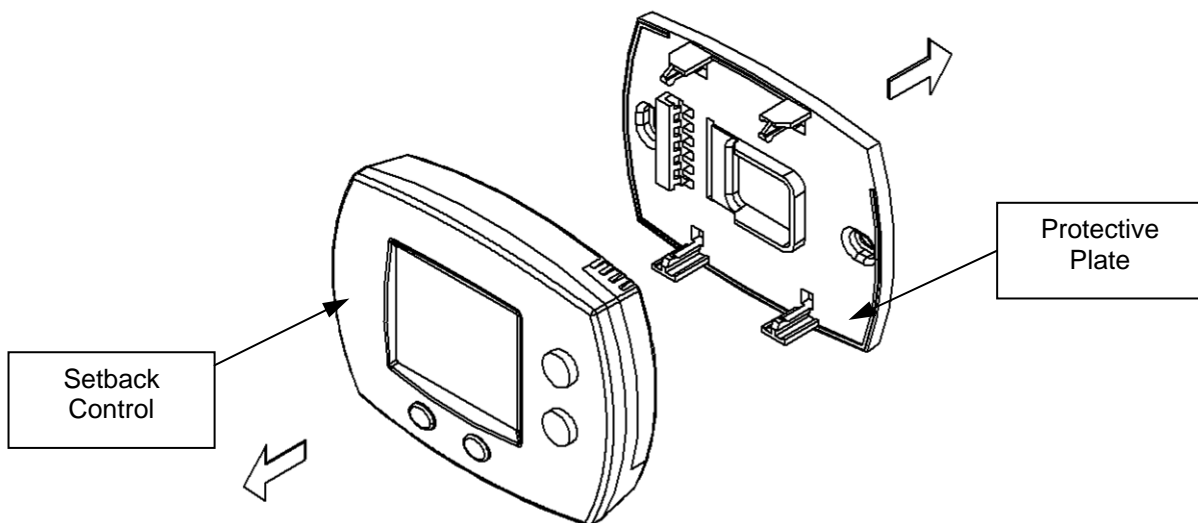

Figure 33
Step 6: Remove the Setback Control protective plate from the Setback Control by pulling these items apart. This is shown in Figure 33. Some force may be required to separate these. Discard the protective plate.